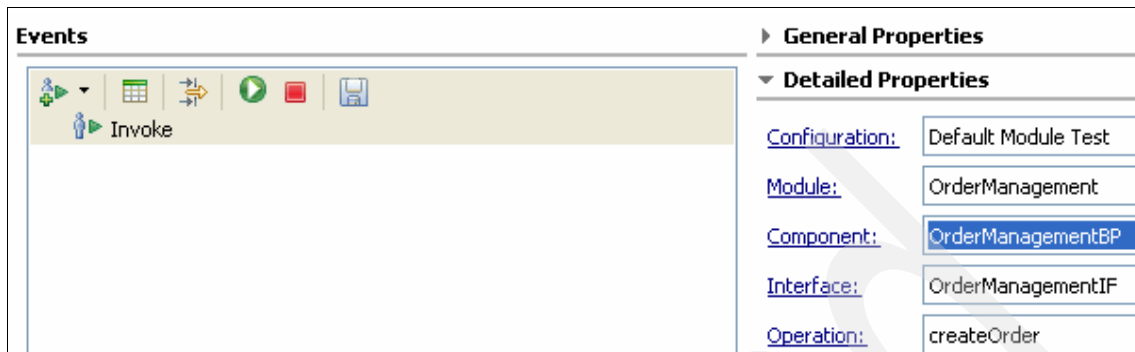

Figure 3-87 Integration test client settings for testing financial rules
5. Verify that you are using the properties shown in Figure 3-87.